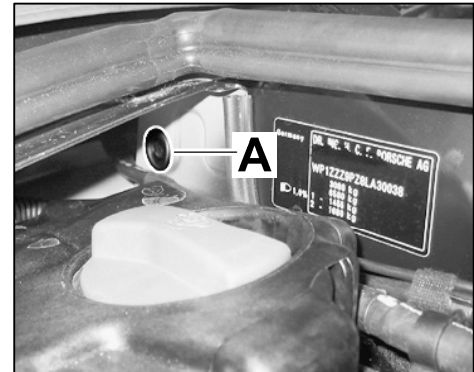

Figure 15
- 4.3.1 Remove rubber sleeve $\Rightarrow$ *Figure 15 -A-* from the bulkhead at the right and punch it.